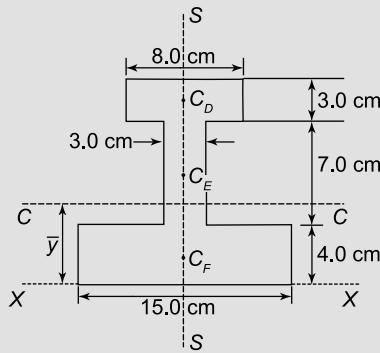

Figure 8.32
Problem 19. (a) Determine the second moment of area and the radius of gyration about axis XX for the I-section shown in Figure 8.32.
- (b) The centroid of the I-section will lie on the axis of symmetry, shown as SS in Figure 8.32. Using a tabular approach: